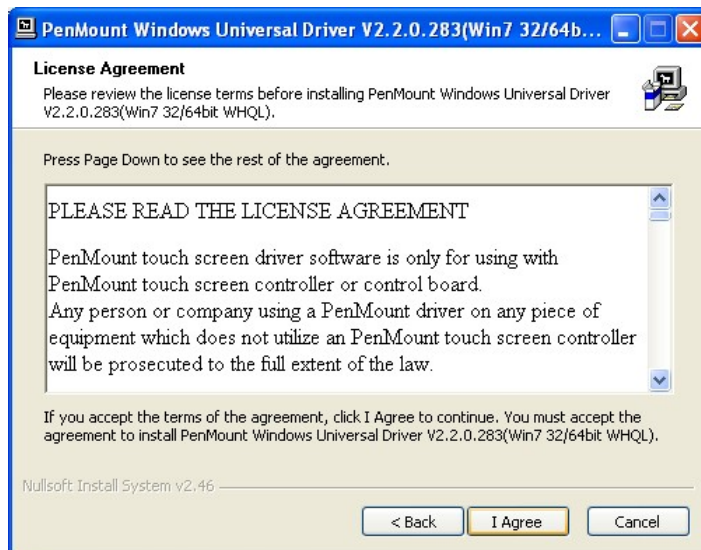

Figure 7-3: License Agreement
Step 7: The license agreement in **Figure 7-3** appears. Accept the terms of the agreement by clicking **I Agree**.